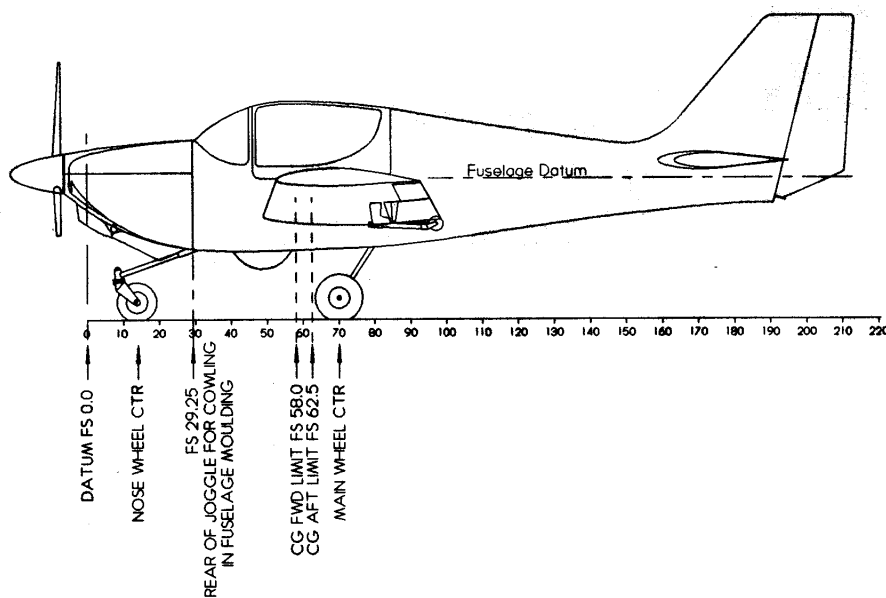

Figure 1
2. Hang a plumb bob from the rear edge of the cowling/fuselage joggle on the port side down to the floor and mark the position; repeat on the starboard side. Join the two marks together and find the centre. Construct a line at right angles going forward from the centre of the first line, and mark off a distance of 29.25" (74.3 cm). This point is the datum and is Fuselage Station Zero (FS 0.0). See Figure 1.